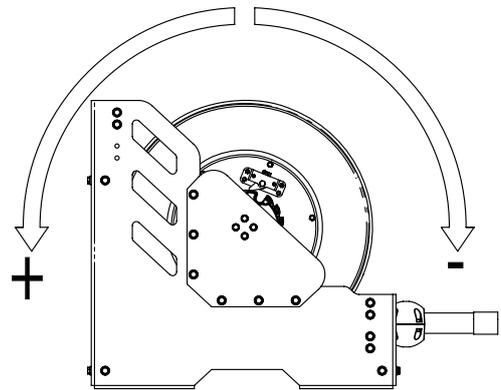

Fig. 6
3. Once the hose is completely wound around the spool (the power springs still will be with no tension), apply the pretension to the power springs by turning the spool the number or turns stated in the table depending on the hose length (see table), turning in positively direction as shown in (fig. 6). Do not apply more tension than stated, as the power springs could be damaged.